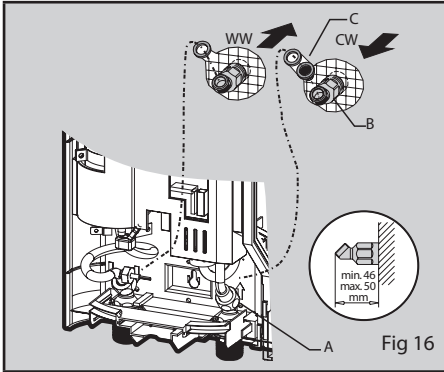

Fig 16
- Connect the nipple joints (Fig 16/B) to the cold water inlet pipe the hot water outlet pipe embedded in the wall at an appropriate position and depth (please pay attention to the distances shown in the diagram).
- Screw the joints on the unit (Fig 16/A) to the joints of the pipes as well as (both hot and cold water), using a rubber leakage gasket (Fig 16/C) between the joints.